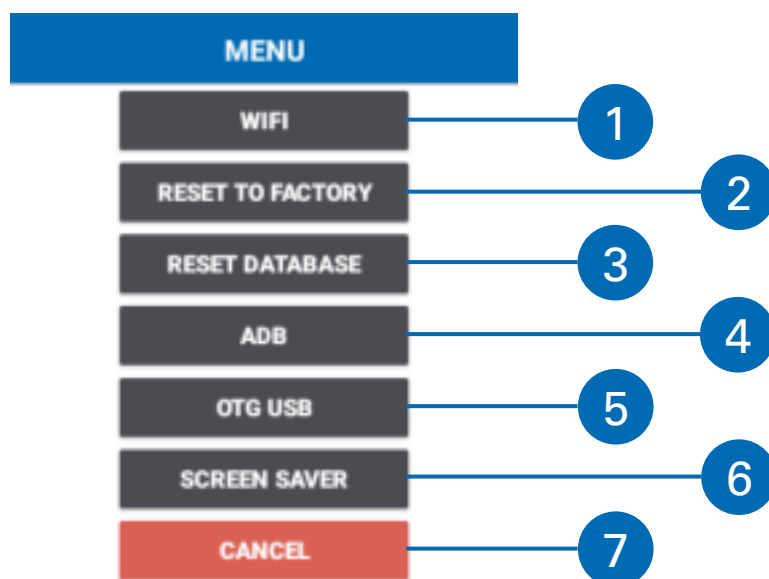

Fig. 8
2. Enter your password in the field "Admin password..." (by default: 123456) and tap "Done". The configuration menu (Fig. 8) opens.
When selecting the "WIFI" submenu in the configuration menu (Fig. 8), the WiFi hotspot connection state is displayed on the left side, as illustrated below:
1. In the configuration menu (Fig. 8), tap "ADB". The following window appears:
1. In the configuration menu (Fig. 8), tap “OTG USB”. The following window appears:
1. In the configuration menu (Fig. 8), tap “SCREEN SAVER”. The following window appears: